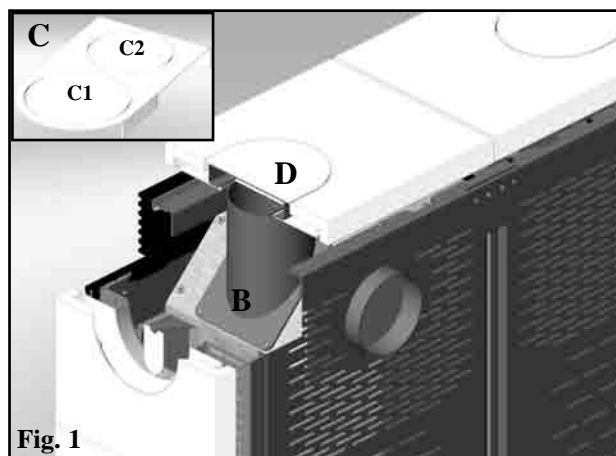

Fig. 1
In order to connect the pipe (not supplied) simply fit it onto the elbow joint (G-fig.5) which is already mounted on the stove and accessible by opening the righthand glass door (fig. 5). An inspection lid for cleaning (H) is located on the elbow joint (G). When using the top outlet you must use the pre-cut lid (C - fig. 1 on page 10) by removing the diaphragm C2, in place of the uncut lid (D - fig. 1 on page 10).